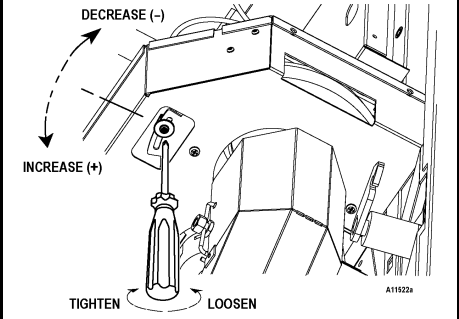

Figure 8c. Cup Diameter Adjustment (Post-NOV2007)
3. While facing the back of the door, find the cup dispenser adjustment screw located on the right side of the cup dispenser. Use a Phillips screwdriver to loosen the screw. DO NOT remove the screw. See **Figure 8c & 8c**.
- 3d. When steps 3a thru 3c are satisfied then tighten the screw. See **Figure 8c**.